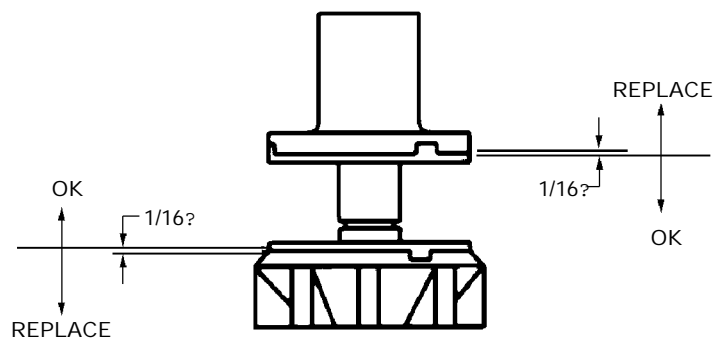

FIGURE 12. UPPER NUT AND BEARING ASSEMBLY
7. Check white upper bearings on auger assembly. If bearings are less than $1/16$ " thick, replace. See Figure 12